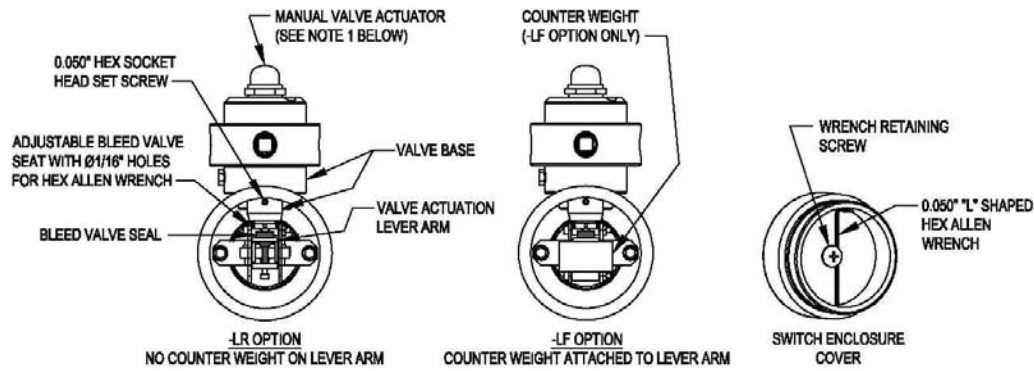

Figure 2
- Verify that the float is in the "down" position (liquid level below the switch centerline). The valve should be closed and the bleed valve not bleeding any air/gas. See -LR OPTION in Figure 2.
- Verify that the float is in the "up" position (liquid level above the switch centerline). The valve should be closed and the bleed valve not bleeding any air/gas. See -LF OPTION in Figure 2.
- Make sure the Switch Float is in the “Valve Closed” position. On the KPFS-LR model, the Switch Float will need to be in the down position. On the KPFS-LF model, the Switch Float will need to be in the up position. You will know which model you have by the model number on the Switch Enclosure Cover name tag. In addition to this, the KPFS-LF has a counter weight attached to the Lever Arm and the KPFS-LR does not. See illustrations in Figure 2.